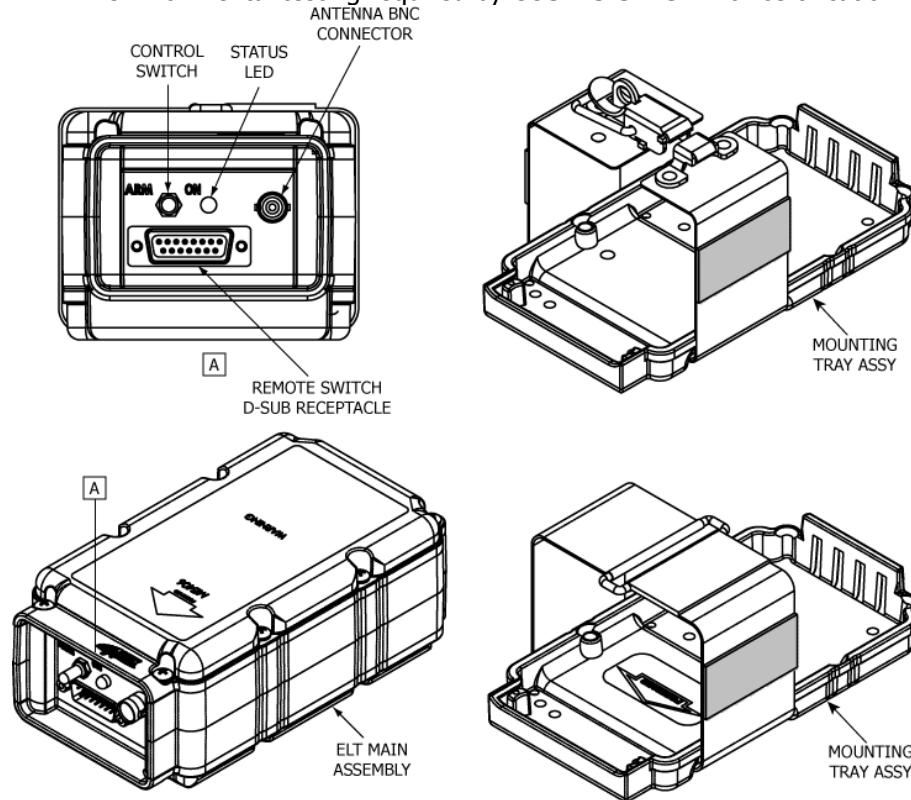

Figure 2 ME406P ELT and Mounting Tray Assembly
- 1) The ME406P ELT main assembly is housed in a high impact, fire resistant, polycarbonate plastic case and mounted in a tray made of similar material. See Figure 2 ME406P ELT and Mounting Tray Assembly.